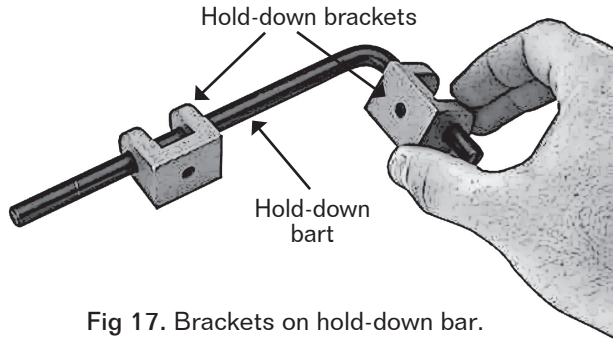

Fig 17. Brackets on hold-down bar.
1. Slide two hold-down brackets onto each of the hold-down bars (one on the short arm, one on the long arm) as shown in Figure 17.